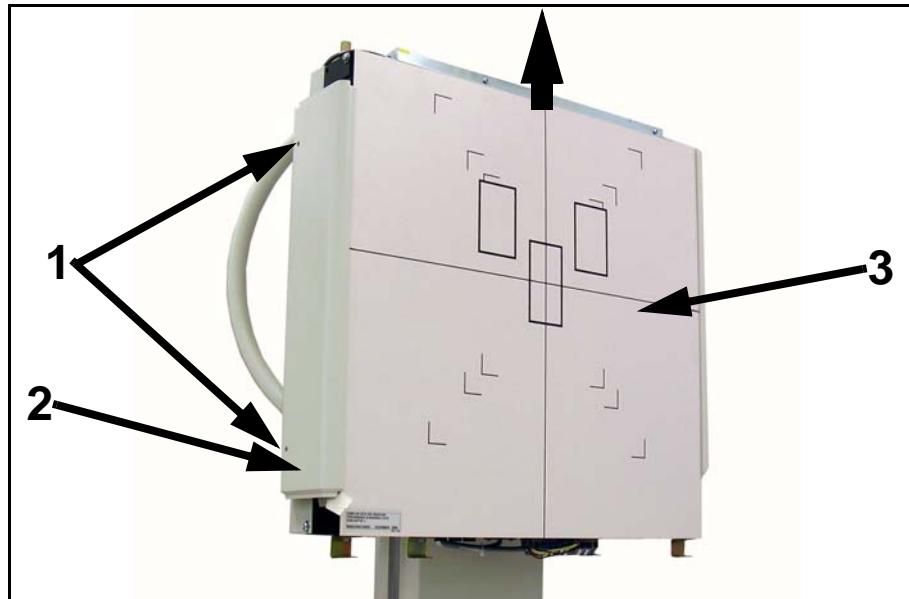

Figure 5-5. Side Panel & Front Panel
- 7 Slide front panel (1 in Figure 5-5) straight up and off the wallstand.
- 8 Unscrew two side cover screws (2) and remove side cover (3).